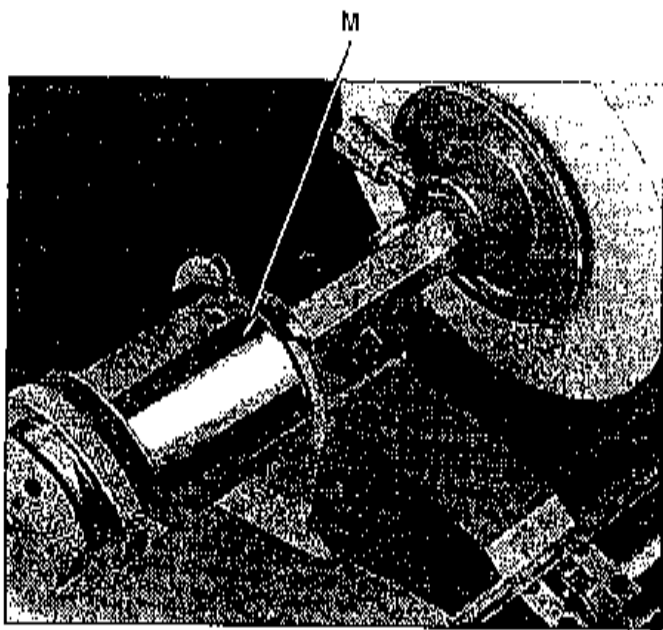

Fig. 5
M. LATERAL FILM ADJUSTER: Figure 5. Used to adjust the side to side movement of the film shafts when lining up the edges of the film web.